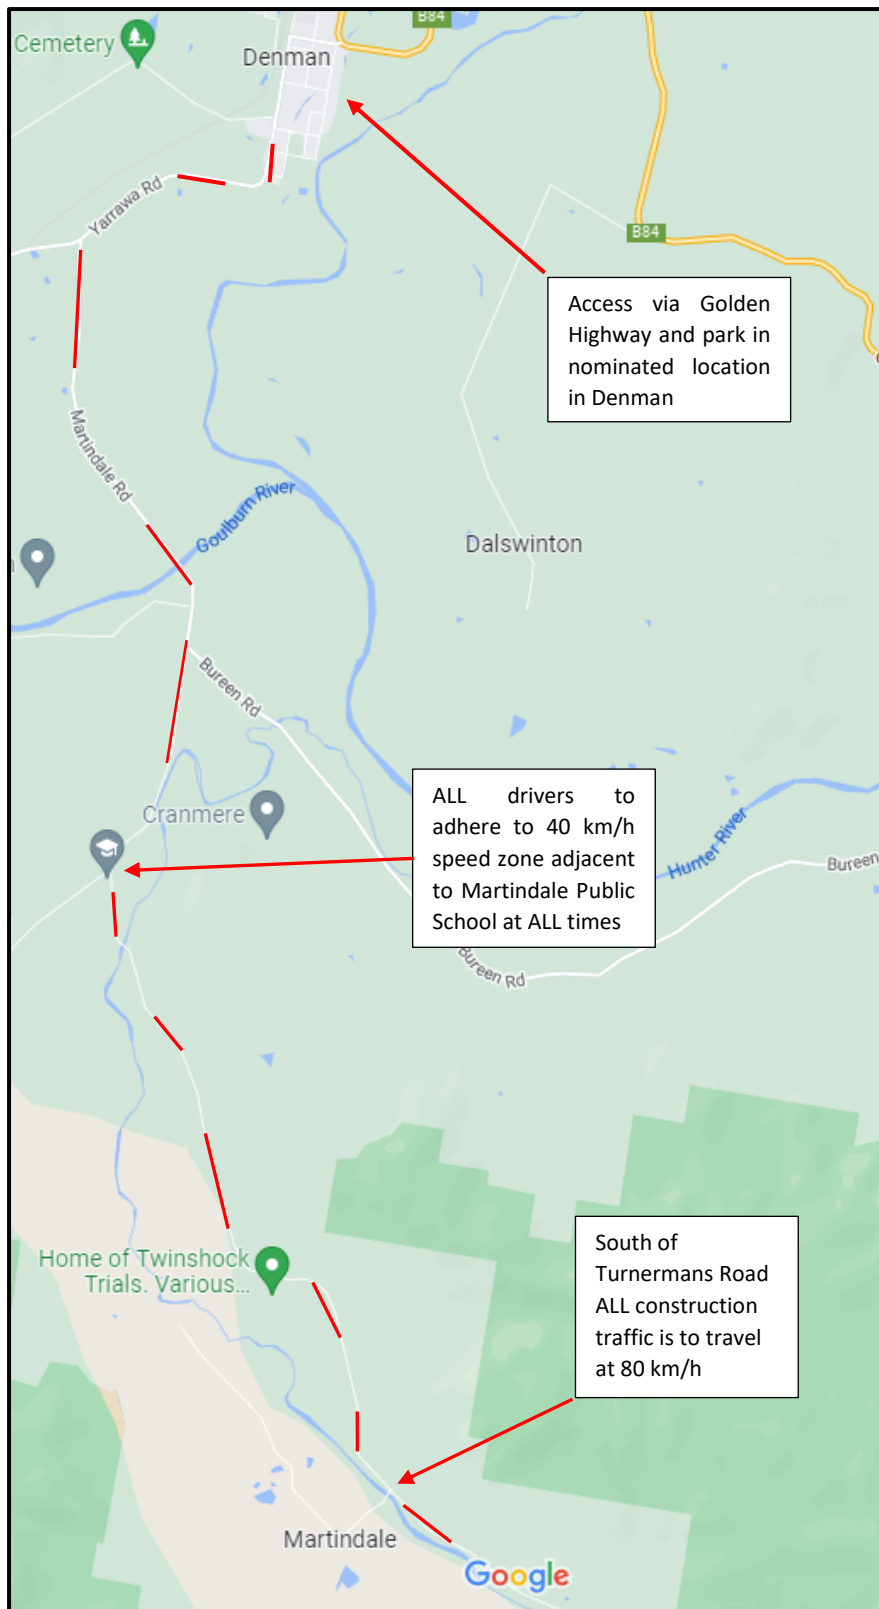

Figure 1 – Nominated vehicle access route to site (light and heavy vehicles)
- The nominated access route to the site is provided below in Figure 1, for both light and heavy vehicles.